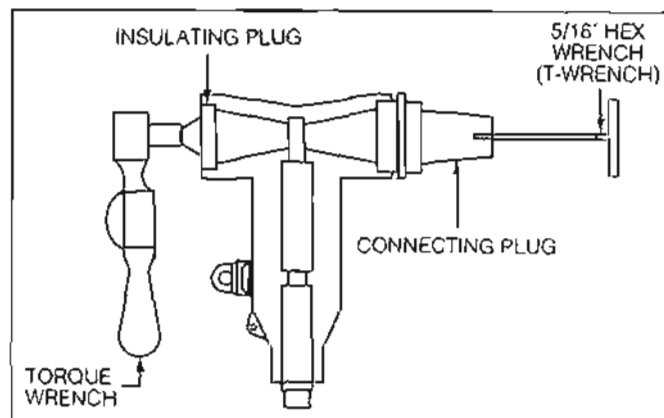

Figure 16.
- Secure the connecting plug by inserting a 5/16" hex style wrench (HD625, T-wrench, or customer supplied alternate), into the hex hole at the base of the connector plug threads. Use a torque wrench to tighten the insulating plug to 55 ft-lbs. (Refer to Figure 16.)